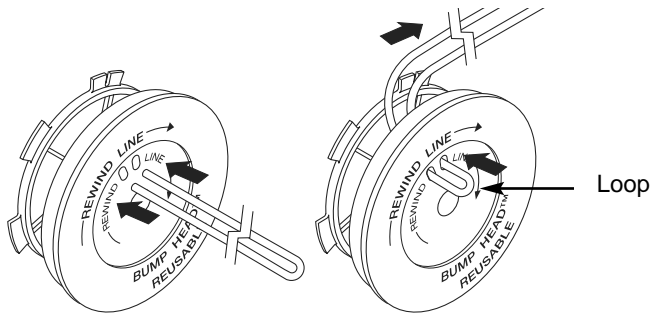

Fig. 19
6. Take approximately 18 feet (5.4 m) of new trimming line, loop it into two equal lengths. Insert each end of the line through one of the two holes in the inner reel (Fig. 19). Pull the line through the inner reel so that the loop is as small as possible.